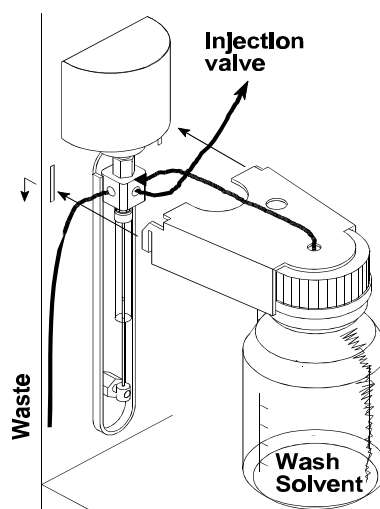

Figure 2.1 Wash solvent bottle
3. Place the holder in the Triathlon as indicated in figure 2.1.